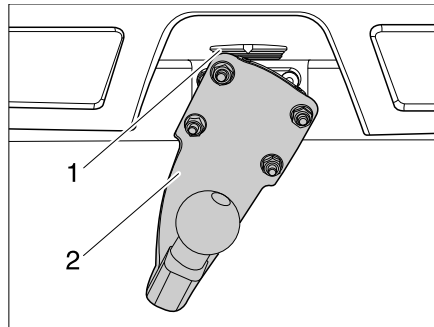

Fig. 5 Tow coupling
- Set the tow coupling (Fig. 5,2) at an angle of 90° to the latch (Fig. 5,1).
- Swivel the tow coupling (Fig. 5,2) downwards until the latch (Fig. 5,1) latches in.
- Press the latch (Fig. 5,1) upwards.
- Swivel the tow coupling (Fig. 5,2) 90° to the left.
- Release the latch (Fig. 5,1).
- Remove the tow coupling (Fig. 5,2).